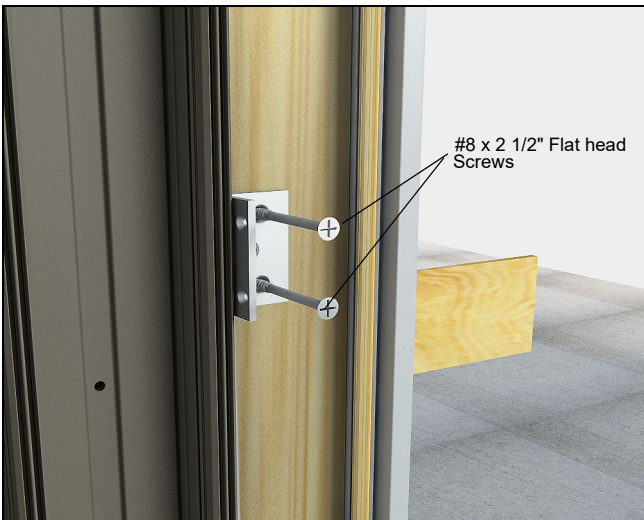

Figure 47
6. Install the stationary bracket, installation #8 x 2 1/2" flat head screws through the brackets and into the rough opening. At top and bottom of wood filler fasten using #8 x 3" washer head screws using counter-bored holes. Ensure there are adequate shims between the rough opening and stationary jamb where the brackets are located. See figure 47.